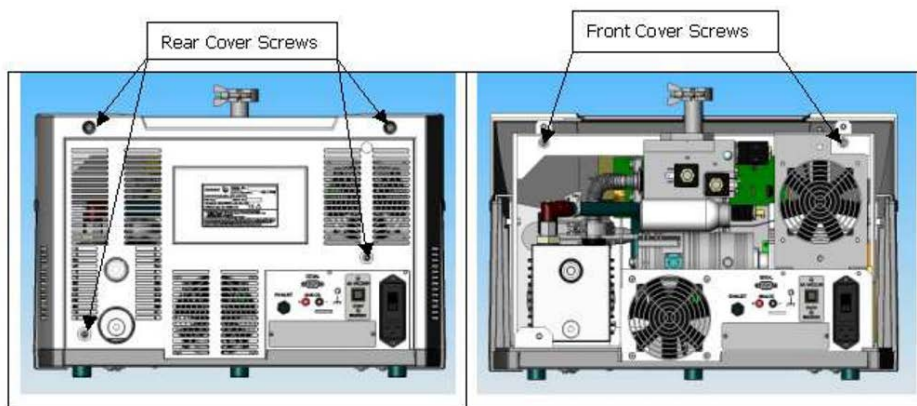

Figure 10 Rear and Front Cover Screws
- 3 Using an extended length M5 Allen wrench, remove the four screws holding the rear plastic cover (Figure 10: Rear and Front Cover Screws) and detach the rear plastic cover from the unit.
- 4 Remove the four screws holding the front plastic cover and detach the cover from the unit. Two screws are situated at the front of the unit (not shown) and two screws are positioned inside the unit (Figure 10: Rear and Front Cover Screws).